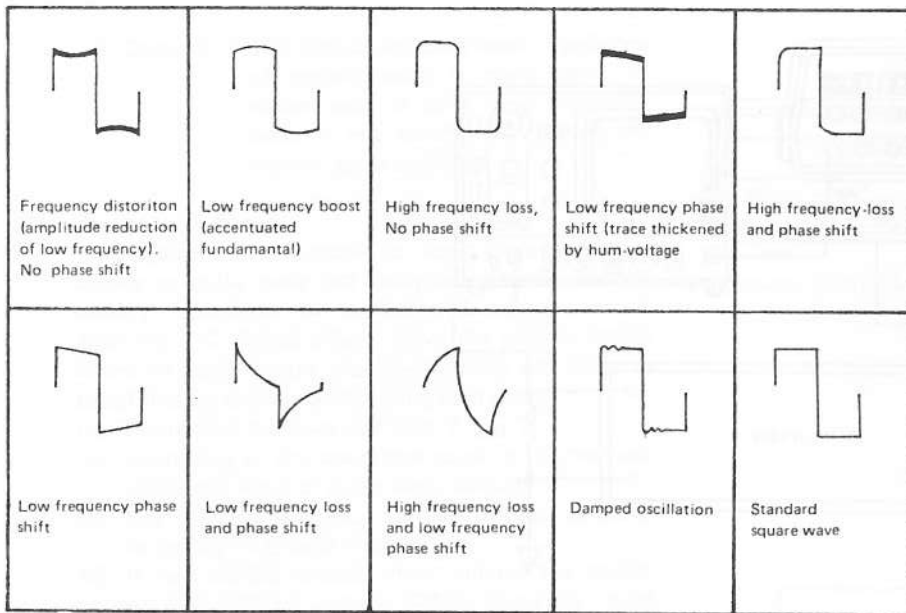

Figure 6
- The output waveform of (c), must get something with frequency Figure 6 shows some possible condition.
- The output waveform of (c), must get something with frequency Figure 6 shows come possible condition.